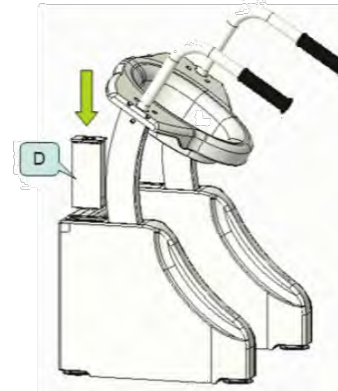

Figure 2 Installation of battery
- 4) Insert the battery to the battery box of the equipment (Figure 2);